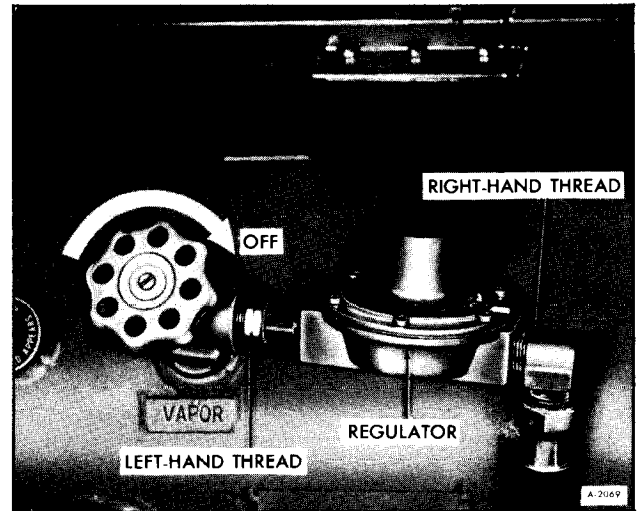

Figure 5-Regulator Attachment
1. Turn off gas at the tank (See figure 5).
IMPORTANT: The connector attaching the regulator to the vapor POL valve is left-hand threaded (See figure 5).
3. Position regulator as shown in Figure 5 and tighten all fittings securely.